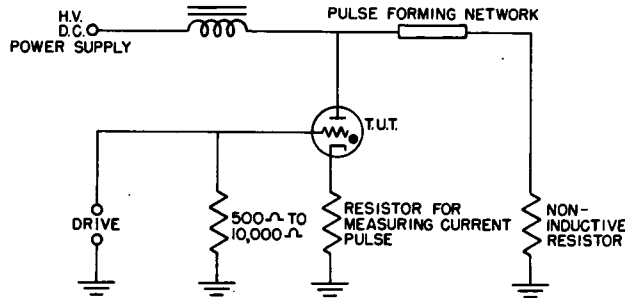

Fig. 1
- Note 7 : The tube shall be tested in the test circuit shown in Fig. 1. Tests performed at repetition rates less than the resonant rate shall be made with a hold-off diode in the charging circuit. The circuit constants shall be chosen under resonant charging conditions so that: $e_{py}=25\text{ kv}$; $i_b=1000\text{a}$ minimum; $\frac{di_k}{dt} = 5000\text{a/us}$ minimum; $t_p=2.5 \pm 0.25\text{us}$; $prf=500\text{pps}$ minimum.